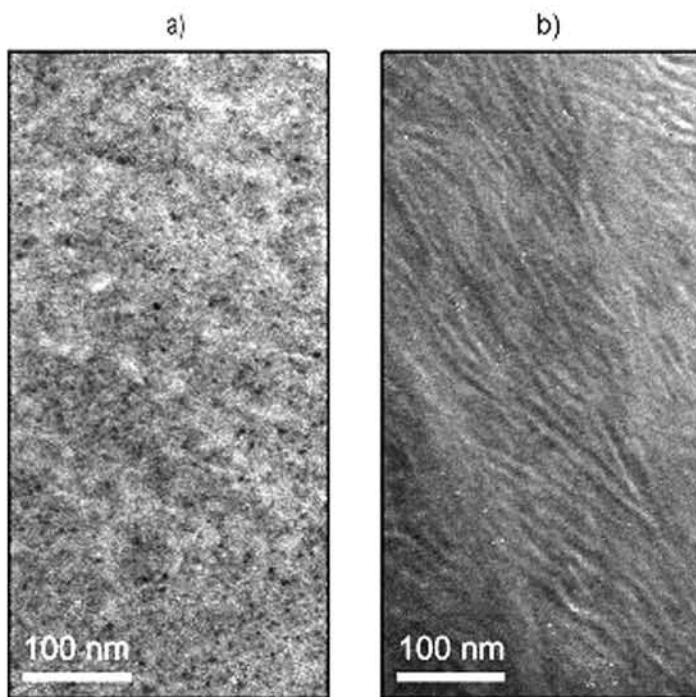

Figure 6: Ruthenium Tetroxide Stained PET: a) Amorphous Texture, b) Crystalline Texture
tween crystalline and amorphous phases of poly (ethylene terephthalate) (PET) by Haubruge [3]. Figure 6 shows side-by-side micrographs of PET stained at 80°C for 15 minutes (A) and for 15 minutes (B) at -15°C for two hours. The PET films were produced by spin coating and exposed to ruthenium tetroxide vapors from 5 min. to one hour, the vapors produced *in situ* by mixing 0.1 g ruthenium trichloride hydrate with 5 ml of 13% active chlorine aqueous sodium peroxide. Haubruge followed the chemistry of PET—RuO₄ vapor staining and corroborated Chou's conclusions (above) that it involved a complex solid-state reaction involving the oxidation of the amorphous phase of the polymer and the localized formation of RuO₂ crystallites. The chemical details of this paper should be considered before concluding precisely what moiety ruthenium tetroxide is staining in diverse polymer blends where chemical unsaturation may not be involved.